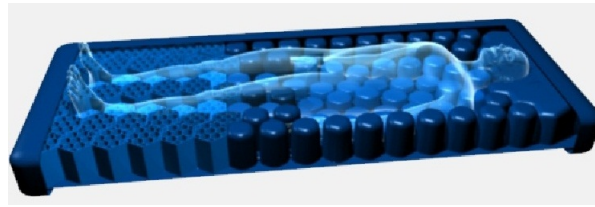

Figure 4 – Center the patient
2. Position the patient in the center of the support surface, align the patient's head toward the head board (Figure 4).